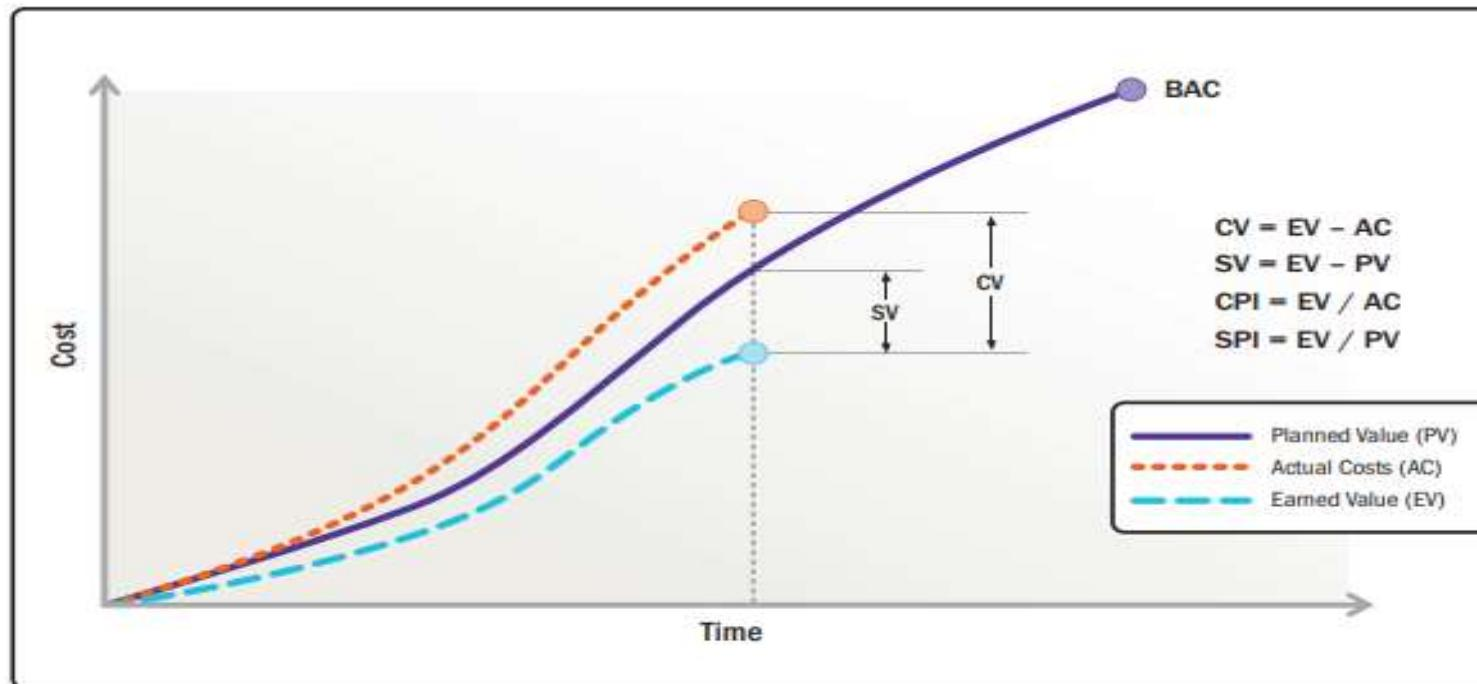

Figure 2-24. Earned Value Analysis Showing Schedule and Cost Variance
Schedule variance (SV). A simple schedule variance is determined by looking at performance on the critical path. When used with earned value management, it is the difference between the earned value and the planned value. Figure 2-24 shows an earned value graph illustrating the schedule variance.
Cost variance (CV). A simple cost variance is determined by comparing the actual cost of a deliverable to the estimated cost. When used with earned value management, it is the difference between the earned value and the actual cost. Figure 2-24 shows an earned value graph illustrating the cost variance.